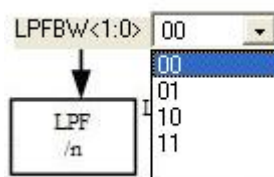

Figure 49
- (1) Select ADC data output type → Hex or Dec output
- (2) Select ADC data output Bit → From 8 ~ 19 Bit output
- (3) Display output button → ADC output value will be displayed by clicking this button
- Figure 49 will show up by clicking mouse left key, then users can select to the network